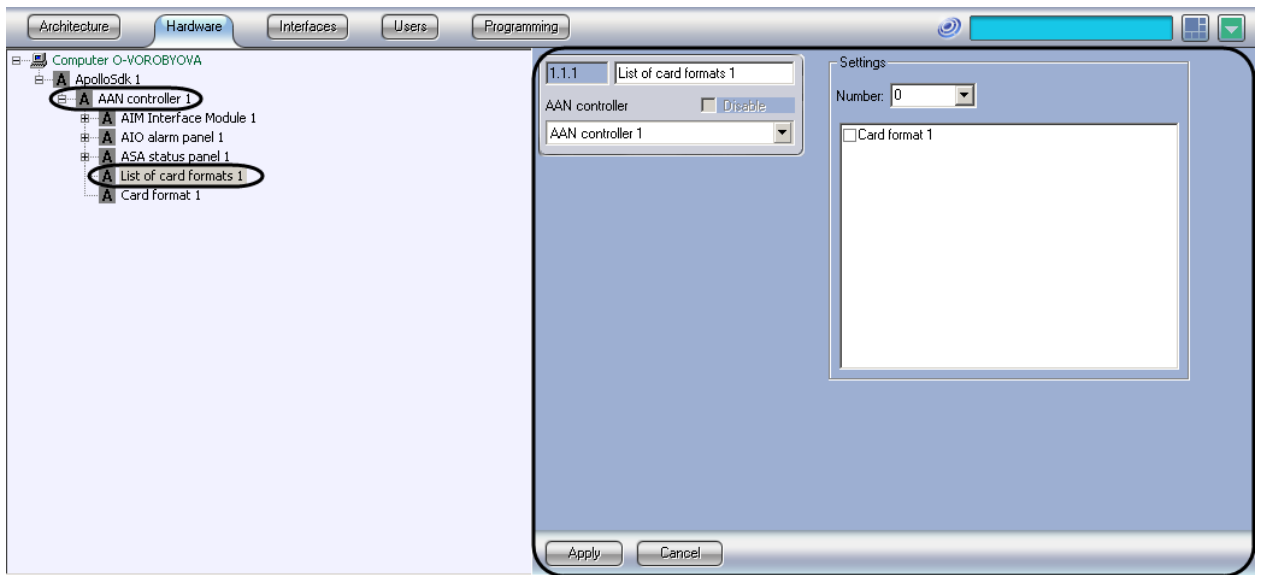

Fig.3.4-3 List of Card Formats object
1. Create a **List of Card Formats** object based on the **AAN Controller** object (Fig.3.4-3).